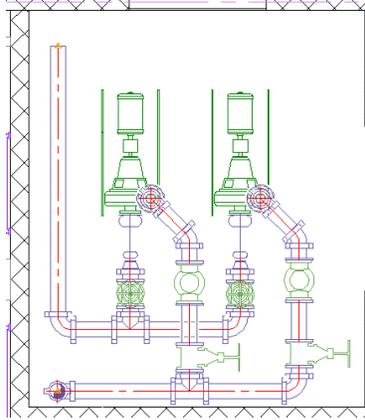

Figure 6.50
- Click on the discharge pipe before the gate valve in the locations shown in Figure 6.50. Use the mouse to indicate the rotation. (Remember you can always flip it with the grip later if necessary).